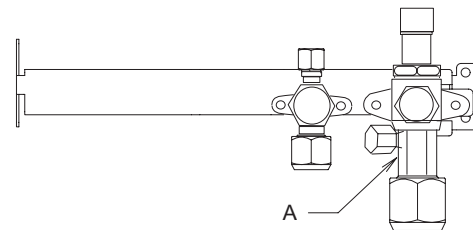

Fig. 1-32
- When removing or tightening the gas tube flare nut, use 2 adjustable wrenches together: one at the gas tube flare nut, and the other at part A. (Fig. 1-32)